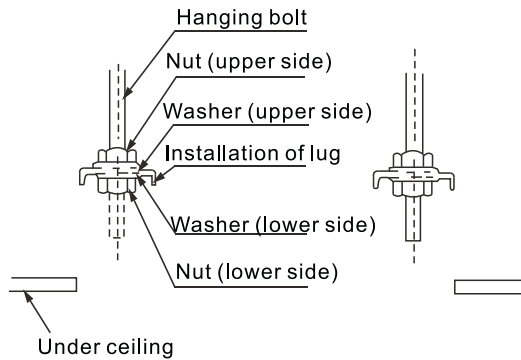

Figure 3.6
1) Adjust the location of the nut, and determine the space between the washer (lower side) and the ceiling according to the actual construction situation. Refer to Figure 3.6.